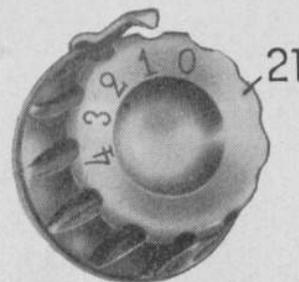

FIG. 12
The length of the stitches is regulated by turning the stitch regulator knob (21) fig. 12. The small pointer above this numbered knob indicates the length of stitch to which the machine is set.
Turn stitch regulator knob (21), fig. 12, clockwise until indicator points at marking "4". Slightly loosen needle thread tension by turning tension regulator knob (16) to the left. The machine will produce a long, loose stitch which can be pulled out readily.